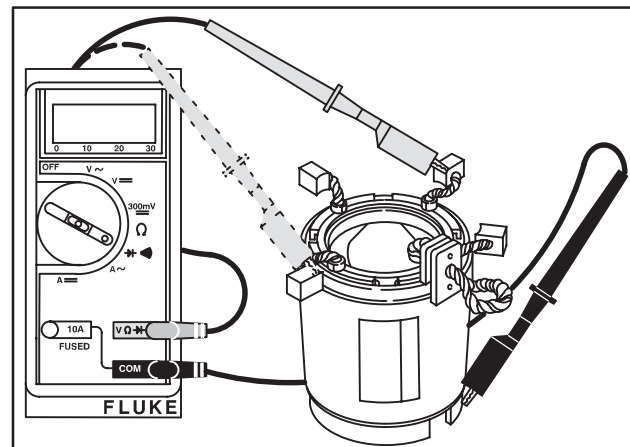

Fig. 66 – Checking Brushes
3. Attach either test lead to starter housing, Fig. 66.